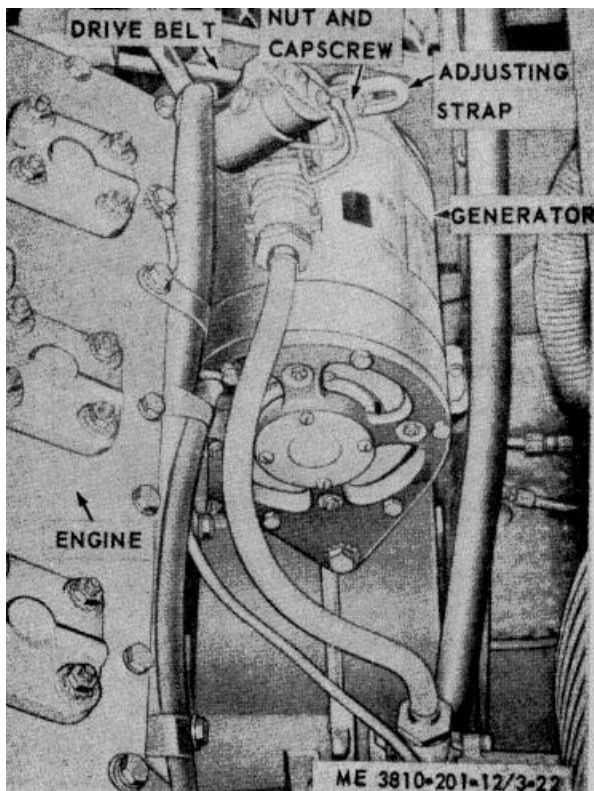

Figure 3-22. Generator drive belt adjustment.
- a. Loosen nut and capscrew (fig. 3-22) on adjusting strap.